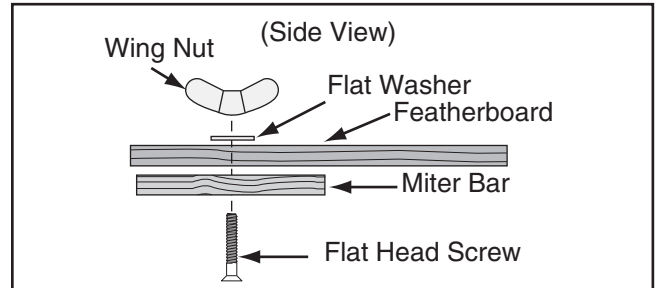

Figure 82. Assembling miter slot featherboard components.
- Assemble the miter bar and featherboard with a $\frac{1}{4}$ "-20 x flat head screw, flat washer, and a wing nut or a star knob (see **Figure 82**). Congratulations! Your featherboard is complete.